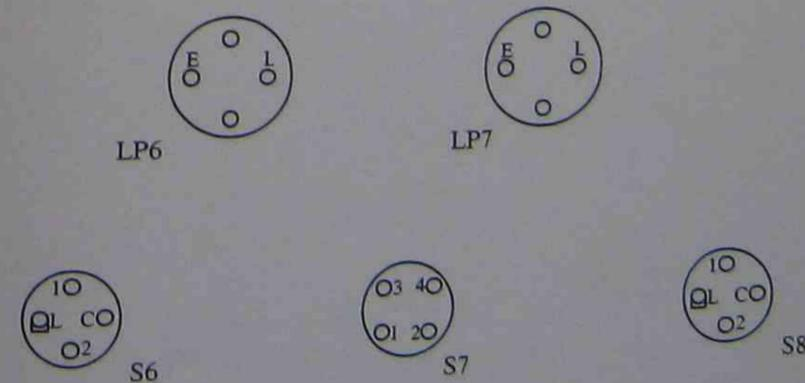

Figure 18 Wiring diagram for lighting point 5 and switches 4 and 5
7. Complete the wiring diagram of Figure 18 by drawing the connections required at lighting points 6 and 7 and switches 6, 7 and 8. Also show the incoming and outgoing conductors. The intermediate mechanism should be a HPM type.